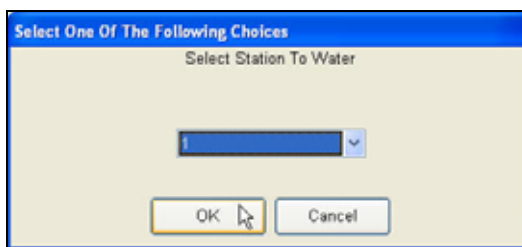

Figure 7.1.3
3. Select a Station To Water. Click **OK** (Figure 7.1.3).